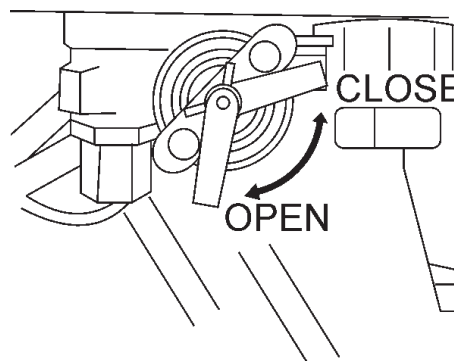

Figure 12. Fuel Cock
1. Open the fuel cock (Figure 12).
4. Close the fuel cock (Figure 12).